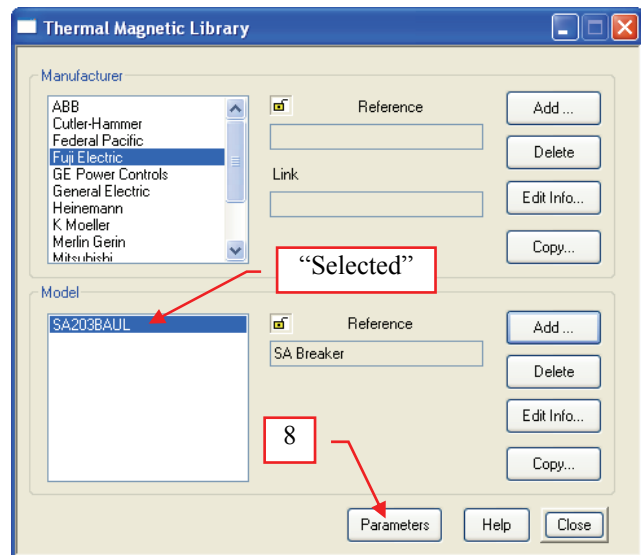

Fig. 18
7. With the “SA203BAUL” selected in the “Model” frame of the “Thermal Magnetic Library” dialog box, click the “Parameters” button. See Fig. 18